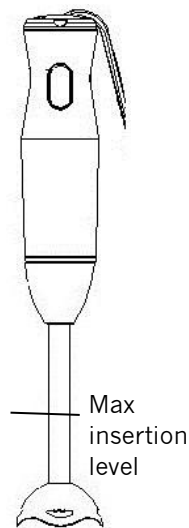

Fig. 2
1. Carefully remove the plastic blade guard and fit the hand blender to the motor housing and lock into position (fig.2).